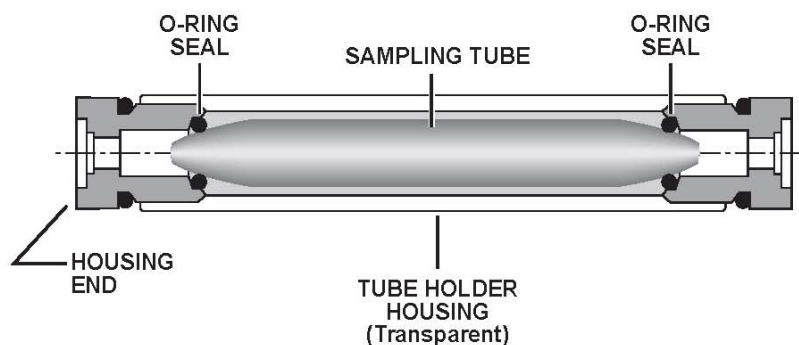

Figure 1
All fittings in the Tube Holder System contain O-rings to maintain an air sealed Tube Cassette, and to permit easy assembly. The see-through housings are ideal for colorimetric tubes. A cross-section of a typical tube holder with tube is shown in Figure 1.
- 5) Install the other Housing End and tighten gently. The sorbent tube will be contained and sealed with the O-rings (refer to Figure 1).